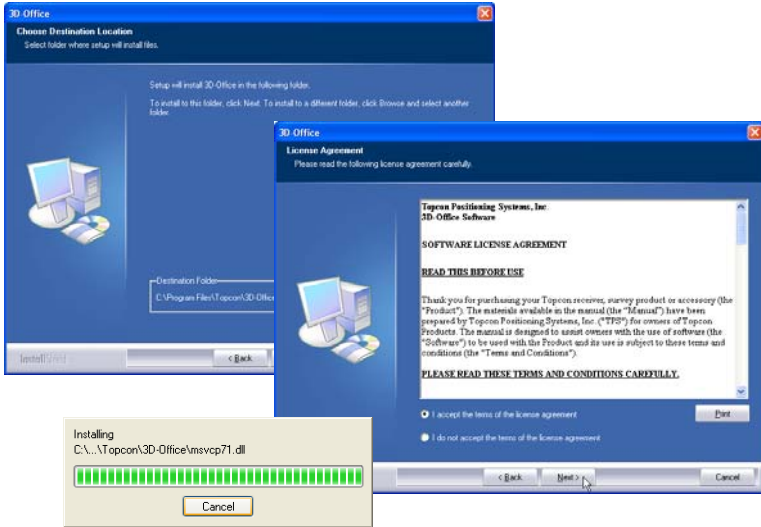

Figure 1-2. Install 3D-Office
4. Select a new destination folder or keep the default folder in which to install 3D-Office, and press **Next** (Figure 1-2).
5. After reading the License Agreement, press “I accept...” and press **Next**. The installation process begins (Figure 1-2).